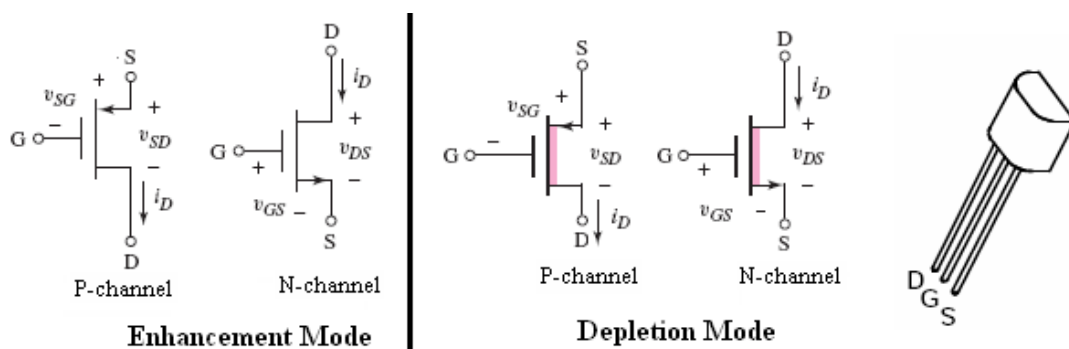
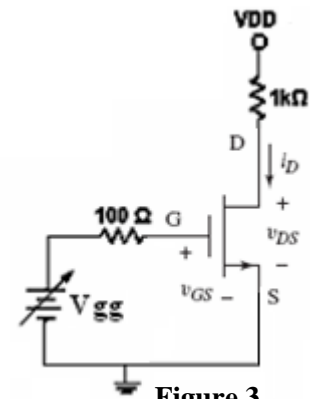

Figure 1
Figure 3
The MOSFET is a three terminal component: Drain (D), Source (S) and Gate (G). The circuit symbols of the two modes and the real shape of the component are shown in Figure 1. In this Experiment we will use NMOS (n-channel MOSFET) enhancement mode transistor.
- 1- Refer to Figure 1 to determine the pin configuration for the MOSFET.
- 3- Connect the (-) lead to the Source (S) terminal.
- 4- Connect the (+) lead to the Gate (G) terminal, the MOSFET's internal capacitance on the gate has now been charged up by the meter and the device is turned-on.
- 5- Remove the (+) lead and connect it to the Drain (D) terminal, you should get a low reading. Record your reading.
- 7- Connect the (-) lead to the Drain (D) terminal and connect the (+) lead pin to the Source (S) terminal, the meter now will read the conducting voltage. Record your DMM reading.
- 1- Construct the circuit shown in Figure 3 by using the **ZVN2110A NMOS**. (Make sure the transistor is connected with the correct leads as shown in Figure 1).